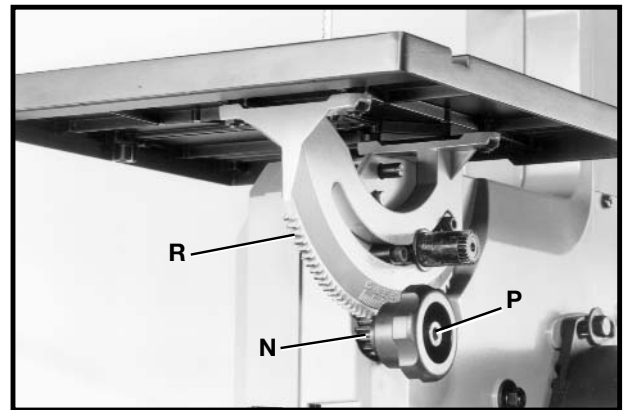

Fig. 10
7. Position pinion knob (N) Fig. 10, onto the back of saw so that the teeth on the pinion knob (N) engage the teeth on the trunnion (R). Fasten in place with special screw (P) and spring using the supplied 4mm wrench.